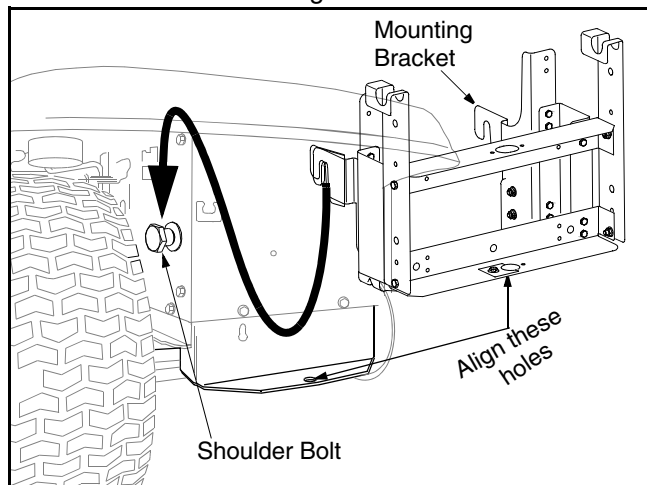

Figure 2
- Position the hooked ends of the bracket assembly to the outside of the hitch plate and over the shoulder bolts. See Figure 2.
- Reinsert the clevis pin through the aligned holes (Figure 2) in both the bracket assembly and the hitch plate and secure with the hairpin clip.